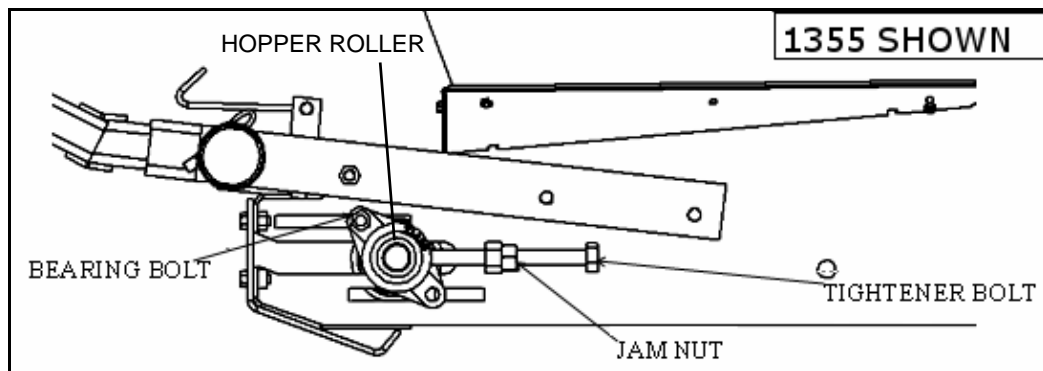

Figure 8.2 Hopper Roller
1. Loosen bearing bolts and jam nut (if included) at tightener roller (see Figure 8.2).